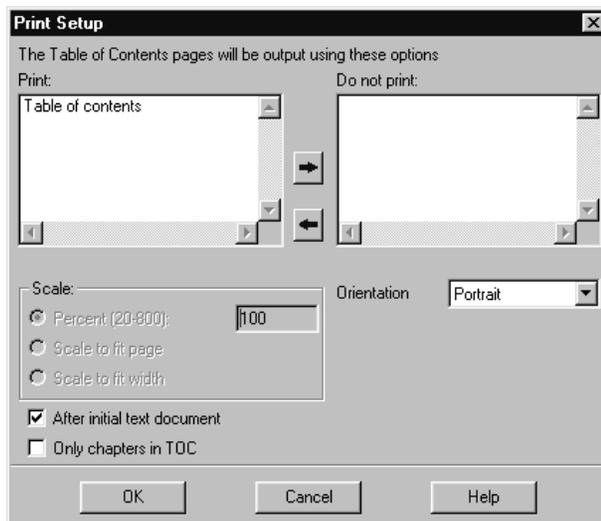

Figure 83: The Table of contents Print Setup dialog
- *Print Setup* dialog for Table of contents in the Organizer, see Figure 83.